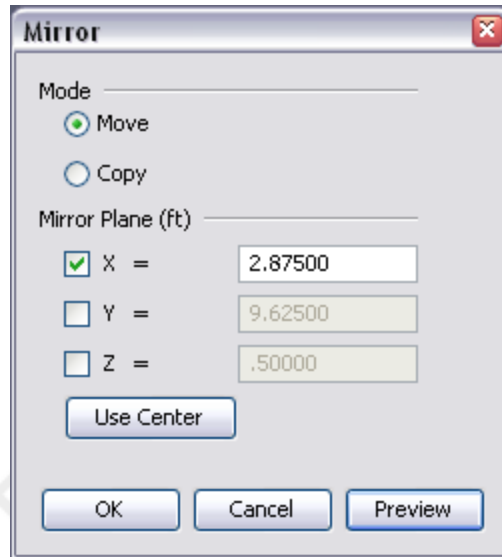

Figure 115. The mirror dialog
3. This will show the Mirror dialog as in Figure 115.